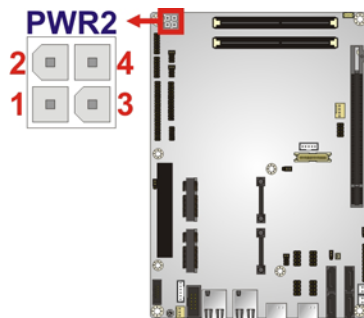

Figure 3-15: CPU 12V Power Connector Location
- CN Location:** See **Figure 3-15**